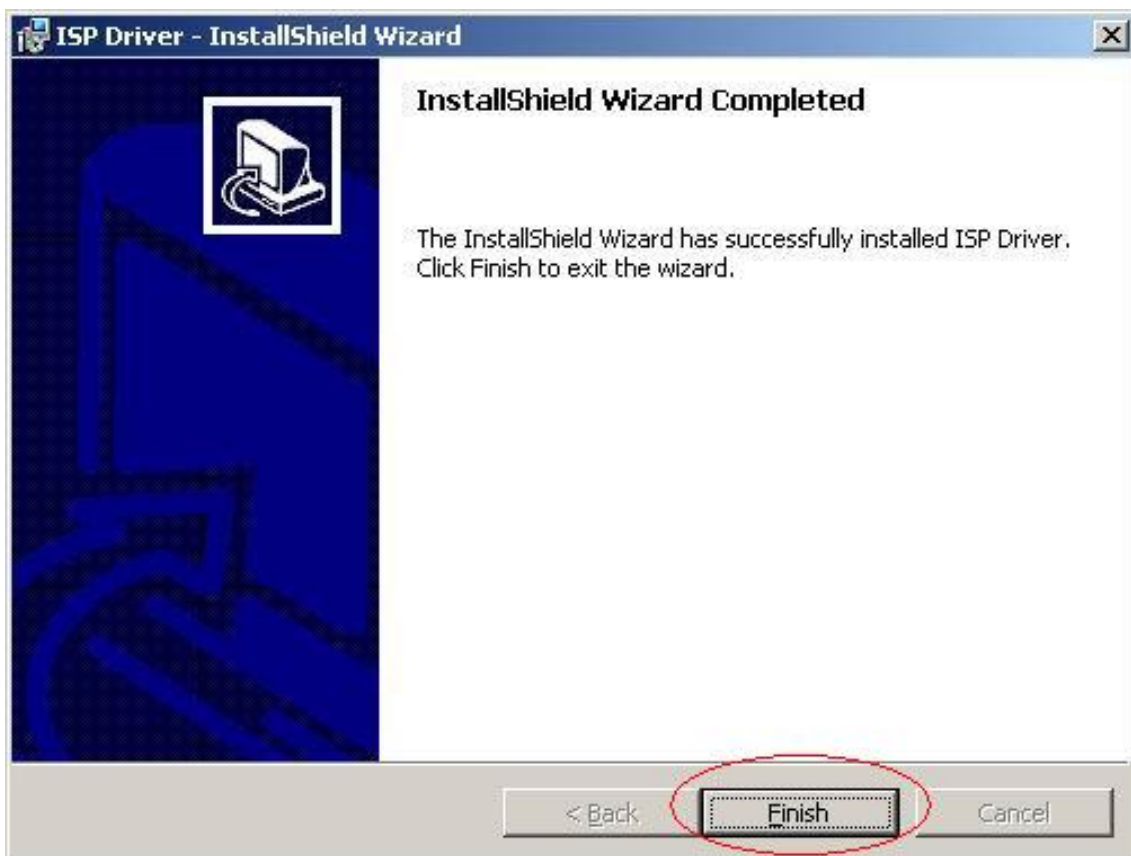

Fig. 1.4
6. When installation has finished, press the "Finish" button; see Fig 1.4.